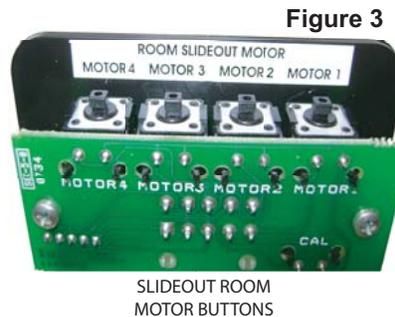

Figure 3
- If using room locks with this control, make sure the room locks are jumped on the board. (Fig 1-2). This allows the room locks to operate with the control. If room locks are not being used, remove the jumper and put jumper on only 1 pin (Fig 3) to save for future use if needed.
- a. Press and hold the SLIDEOUT room motor buttons (Motor 1, Motor 2, Motor 3, and/or Motor 4) on the back of the wall touchpad (Fig 3) that correspond to the SLIDEOUT motors you want to move. These buttons correspond to the slideout room motors only and NOT the room lock motors.
- a. Press and hold all SLIDEOUT motor buttons (Motor 1, Motor 2, Motor 3, Motor 4) on the back of the wall touchpad (Fig 3)